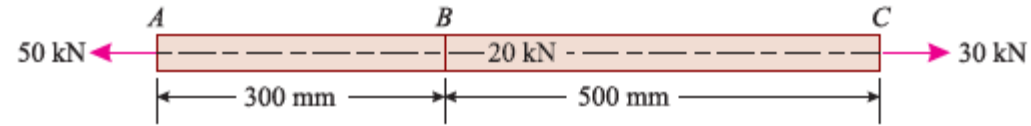

Fig. 2.6
**EXAMPLE 2.10.** A steel bar of cross-sectional area  $200 \text{ mm}^2$  is loaded as shown in Fig. 2.6. Find the change in length of the bar. Take  $E$  as  $200 \text{ GPa}$ .